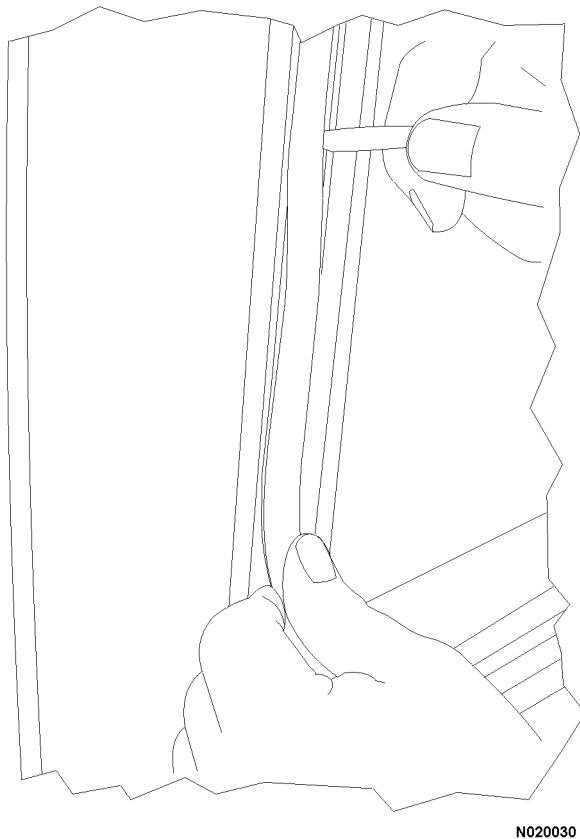

FIGURE 2-15.
17. Install the trim material over the top of screws that hold the window frame to the door. Use a flat blade screwdriver to assist with installing the trim material. See Figure 2-15.